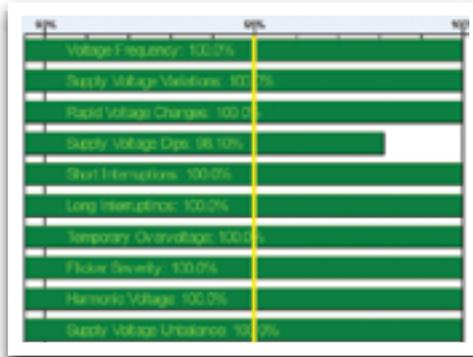

Figure 2: EN 50160 at the Main Service
Figure 2 shows the results of EN 50160 compliance at the main service (1). Similar results are measured at each one of the transformer secondaries (2 & 3). Thus the site complies with and even exceeds the standard.